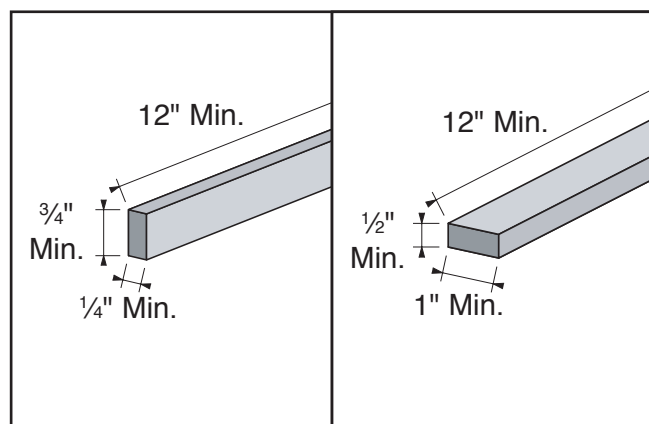

Figure 29. Minimum dimensions for edge jointing and surface planing (jointer).
- Make sure your workpiece exceeds the minimum dimension requirements (see **Figures 29 & 30**) before edge jointing or surface planing, or it may break or kick back during the operation!